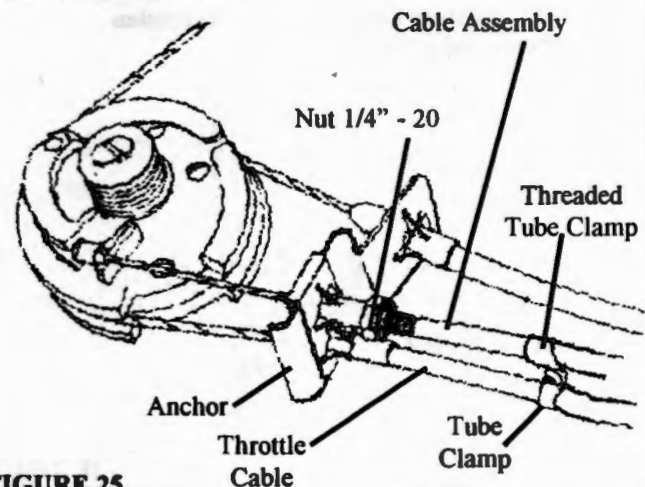

FIGURE 25
**NOTE:** If you do not use the other 1/4" - 20 Nut, install a Tube Clamp and the Threaded Tube Clamp 6" to 7" from the anchor point. (Figure 25) This will keep the Cable Assembly from backing out of the anchor.